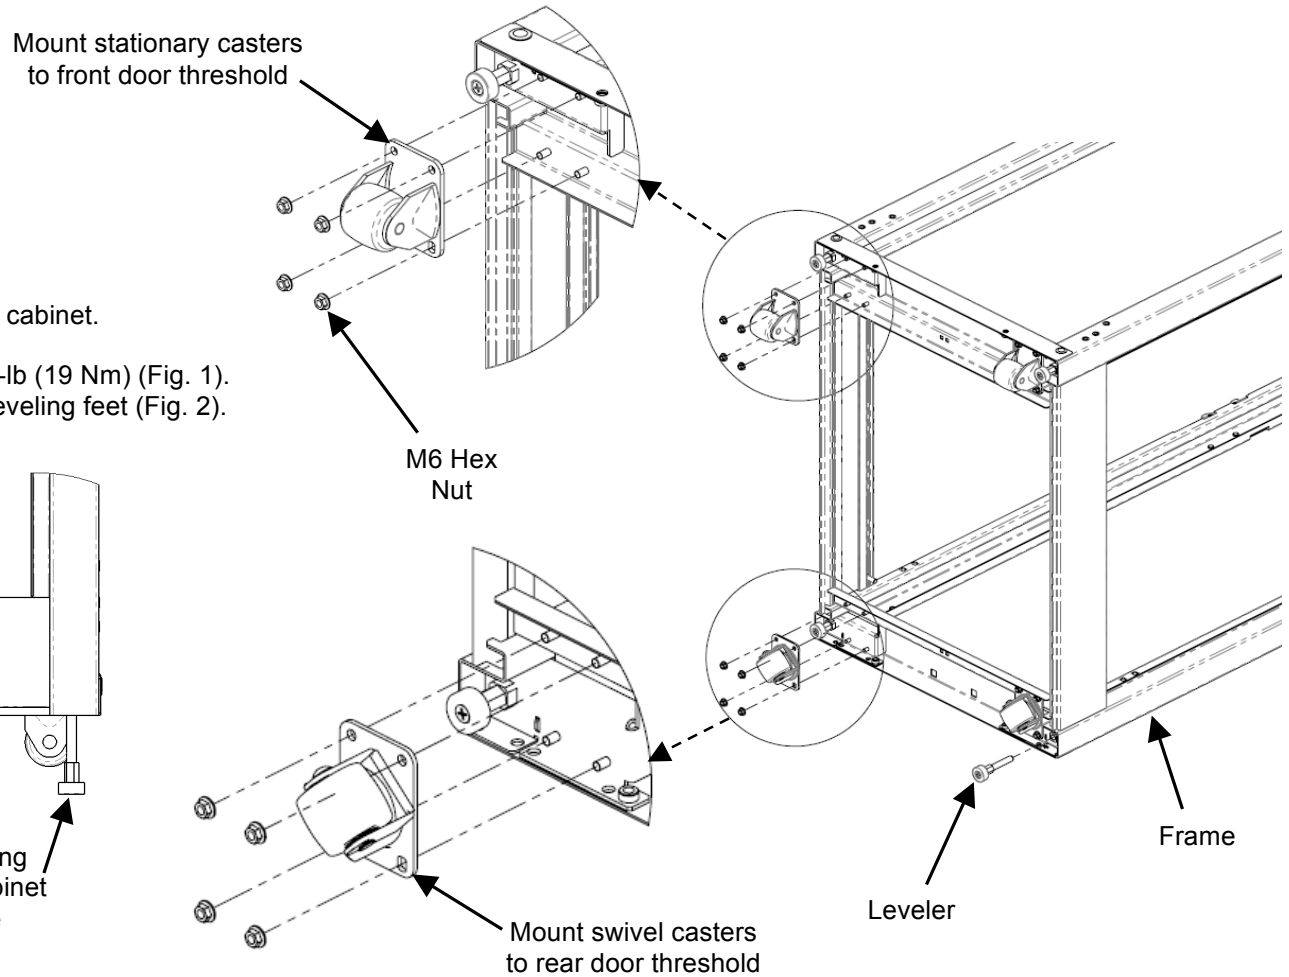

Fig. 1
2. Lay cabinet on its side (Fig. 1).
3. Position casters as shown, torque all nuts to 168 in-lb (19 Nm) (Fig. 1).